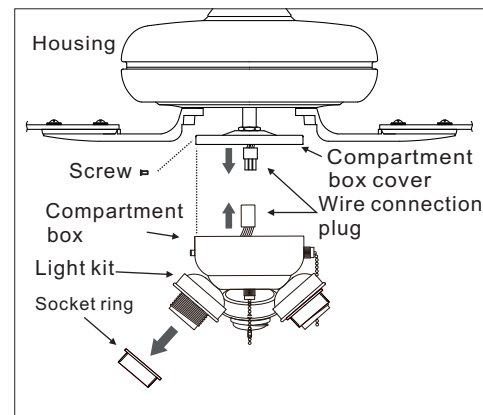

Figure 18
1.Remove 3 screws on compartment box cover. (Figure 18)
2. While holding the light kit assembly under your fan, snap together the wire connection plug. (Figure 18)
3. Carefully push all wires back into the compartment box, then install the light kit assembly onto the compartment box cover with the 3 screws previously removed. Be sure to tighten all screws. (Figure 18)